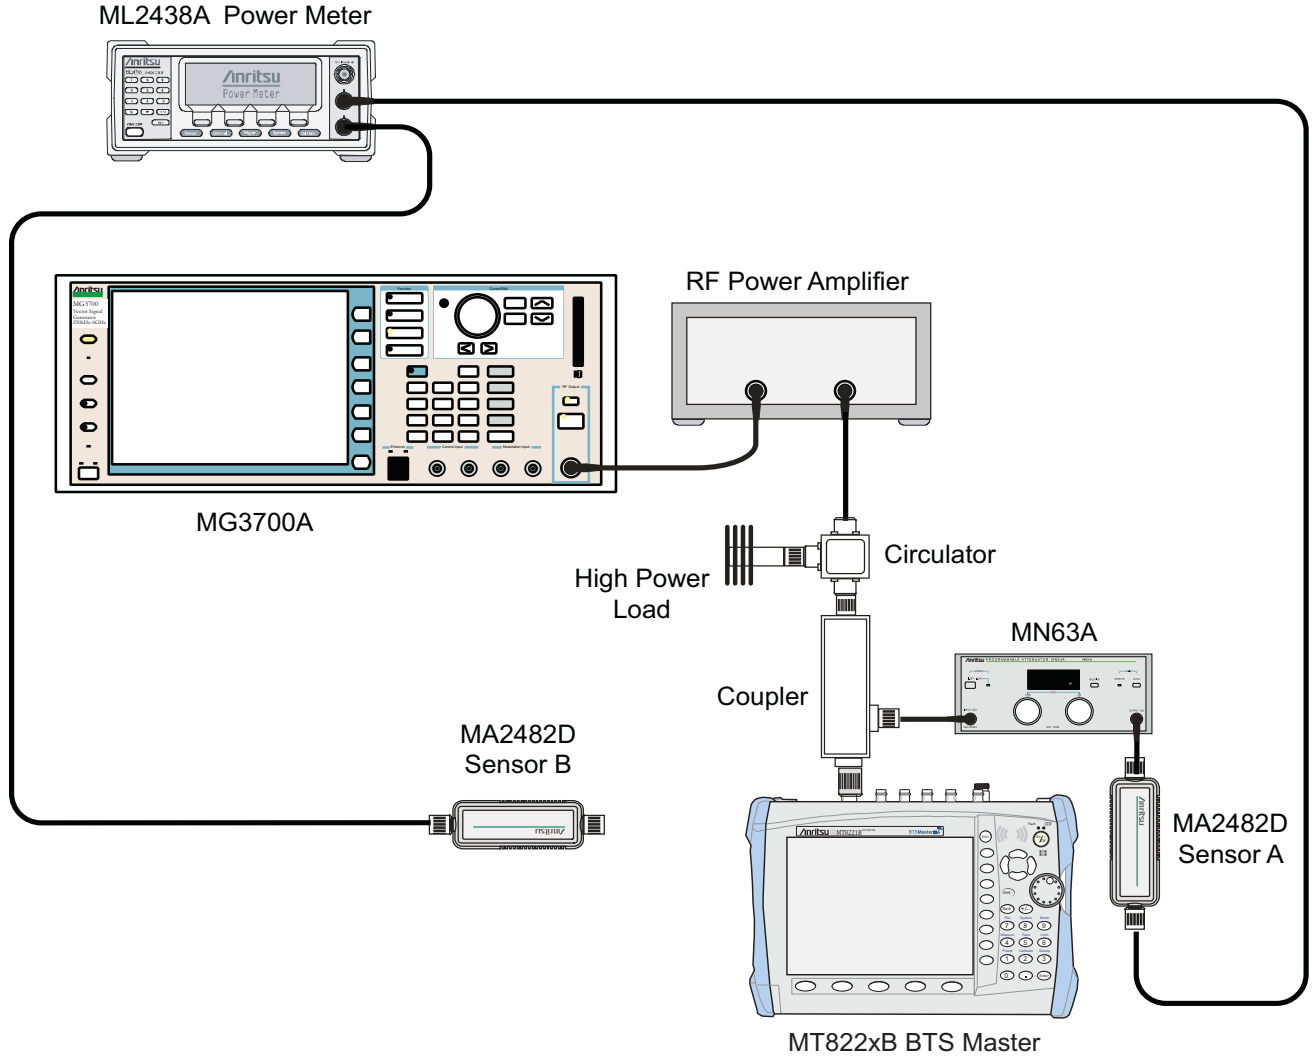

Figure 5-4. WCDMA Signal Analyzer Option Verification (Setup 2)
33. Disconnect the coupler from Sensor B and connect the coupler to the MT822xB SPA RF In connector. Refer to Figure 5-4.